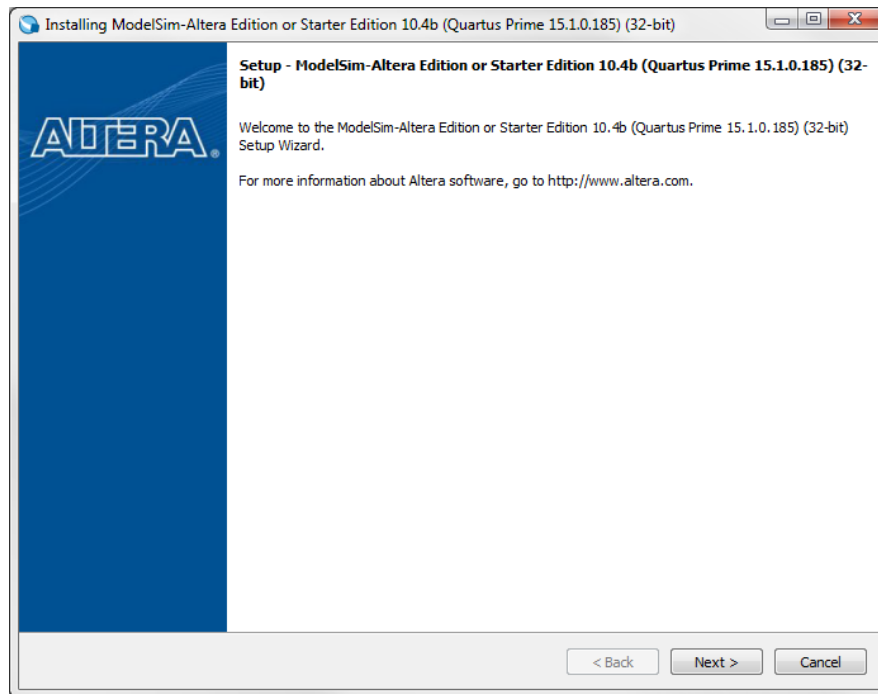

Figure 7.1.4
9. Select **Next** as shown in Figure 7.1.4.